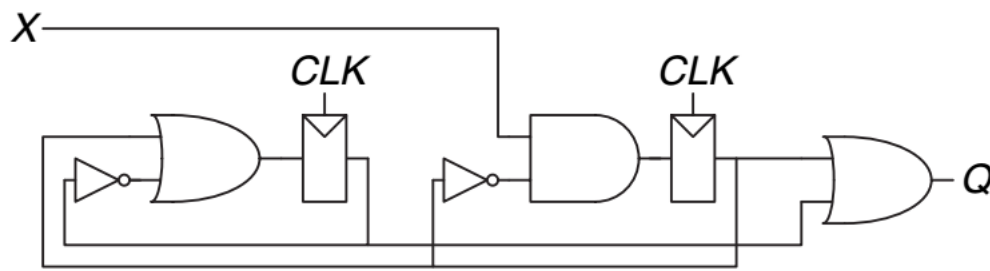

Figure A.3: Circuit for an FSM
A.1.3 The circuit shown in Figure A.3 implements an FSM. Draw the state transition diagram of this FSM, and describe in words what is its function.